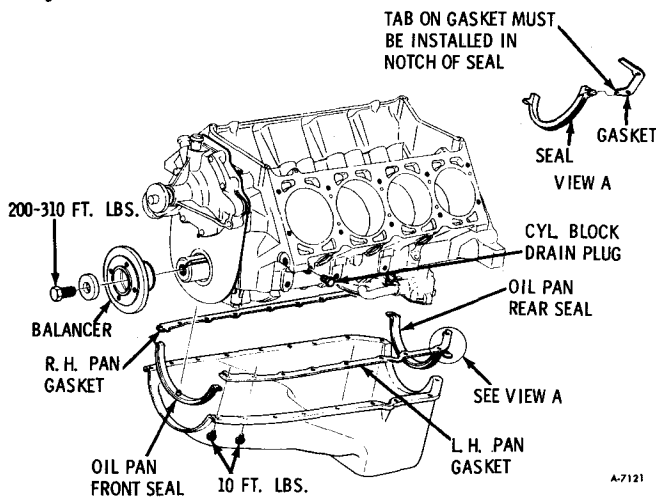

Figure 39—Oil Pan Assembly
1. Apply sealer Part No. 1050805 or equivalent to both sides of gaskets. Position all gaskets on engine block (figure 39).